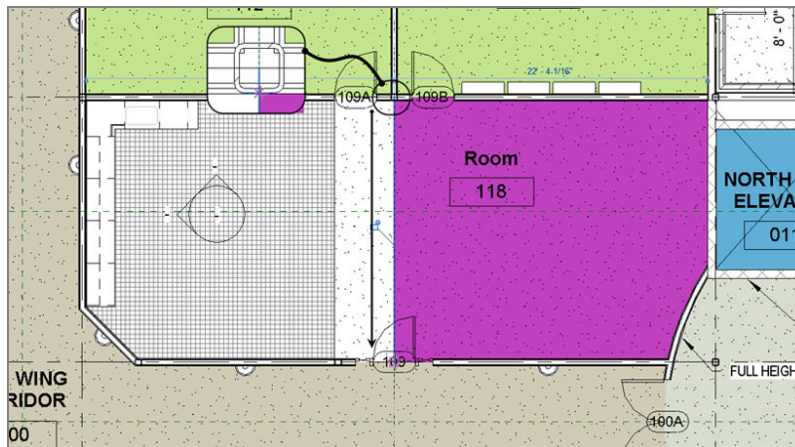

FIGURE 15.22: Adding the room-separation line
6. Pick the edge of the flooring, as shown in Figure 15.22.